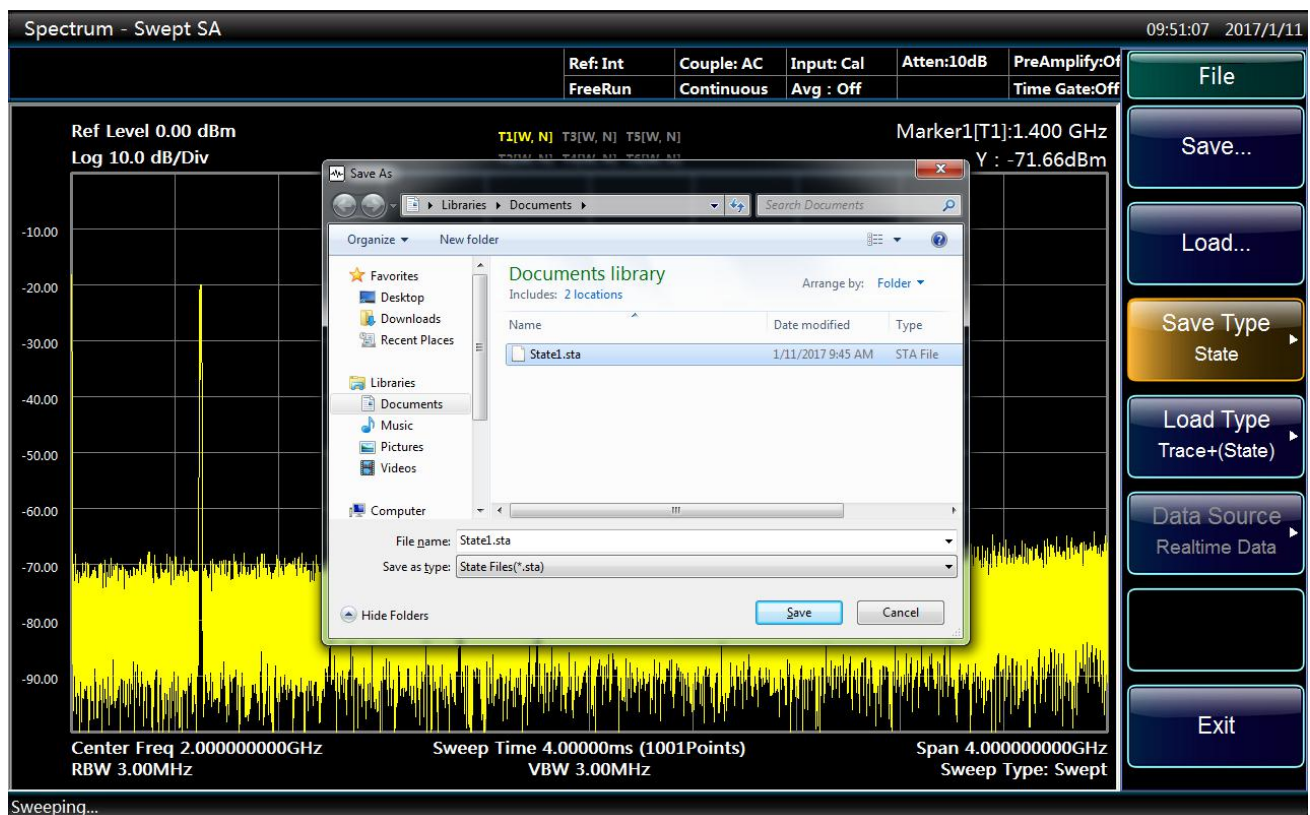

Fig. 3.23 File saving interface
- Press [Save...] Soft menu. As shown in Fig. 3.23.